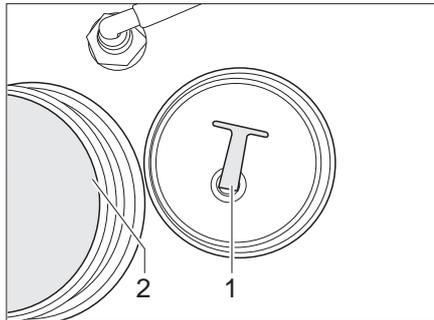

Fig. 153 Water tank
- Unscrew the cap (Fig. 153,2) on the water tank.
- Screw out the stopper (Fig. 153,1) from the drainage opening. The water drains off.